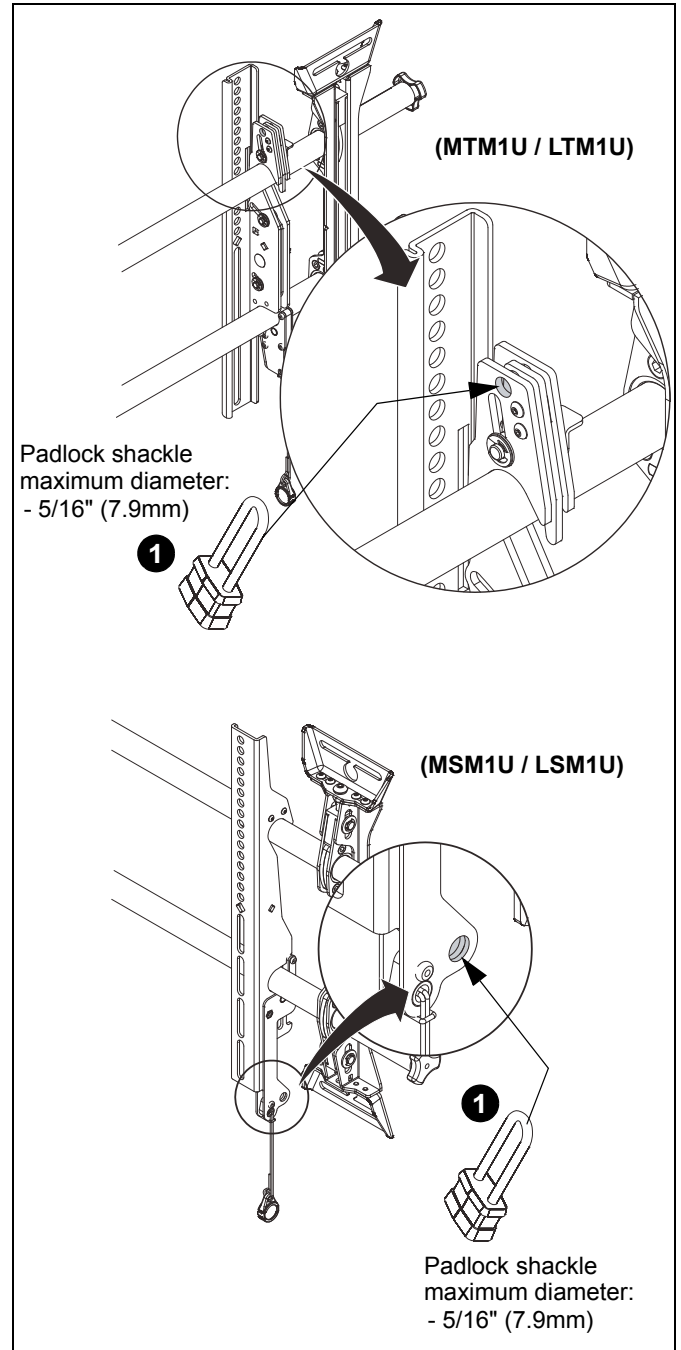

**Figure 15**
1. Lock screen interface brackets onto mount rails using one 3/8-16 x 3/4" set screw (U) on each interface bracket. (See Figure 15)